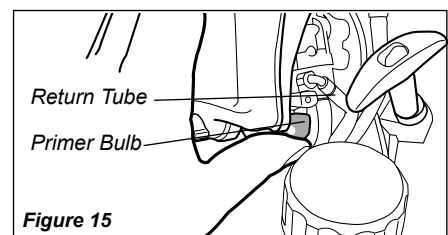

Figure 15
2. Press the primer bulb until fuel can be seen flowing in the transparent return tube. See Figure 15.